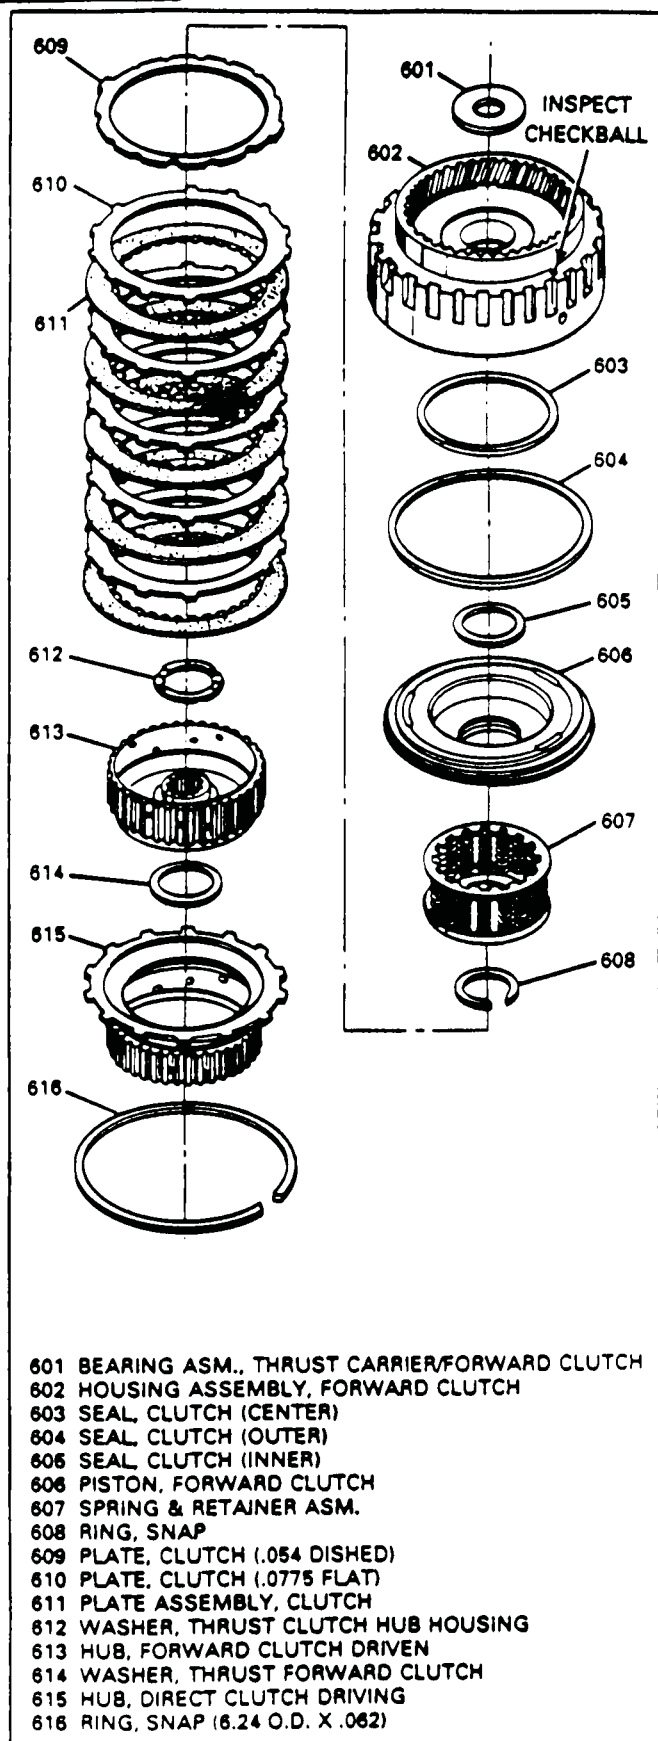

Figure 80
1. Remove the snap ring from top of the backing plate/direct clutch hub (See Figure 80).
2. Remove the direct clutch hub (615) as shown in Figure 80.
3. Remove the forward clutch hub (613) as shown in Figure 80, and both of the thrust washers.
4. Remove the forward clutch plates from forward housing, 5 lined plates, 5 steel plates, and 1 dished cushion plate, as shown in Figure 80.
7. Remove the forward clutch piston from the housing (See Figure 80).
15. Install the return spring assembly (607) as shown in Figure 80.
22. Install forward clutch plates alternately starting with a steel plate on top of the dished plate (See Figure 80).